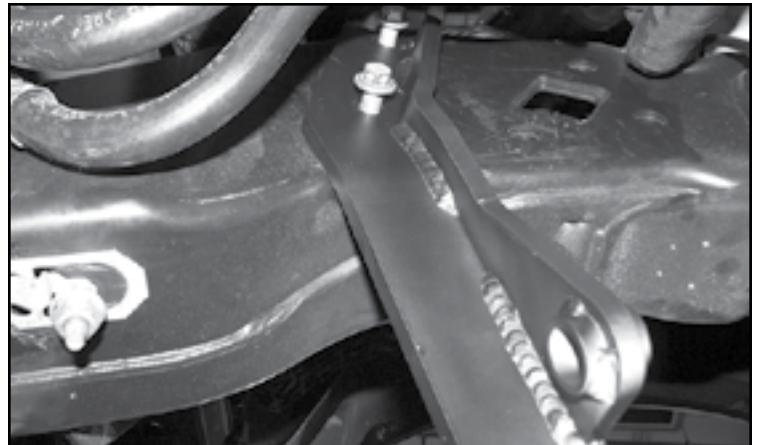

FIGURE 30 - STEP 32
- 32.** Install FT30672 (steering stabilizer drop bracket) in the factory location using the factory hardware. Torque to 59 ft-lbs. **SEE FIGURE 30**